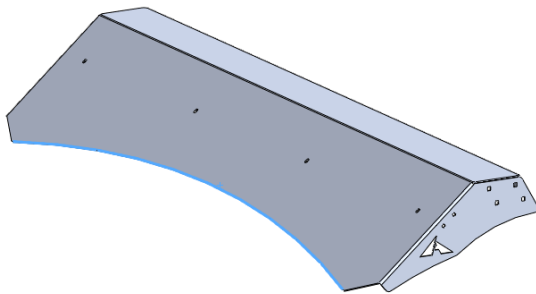

Figure 8: Rubber Trim Installation on Air Dam
5. Install rubber trim along front edge of air dam (Figure 8).